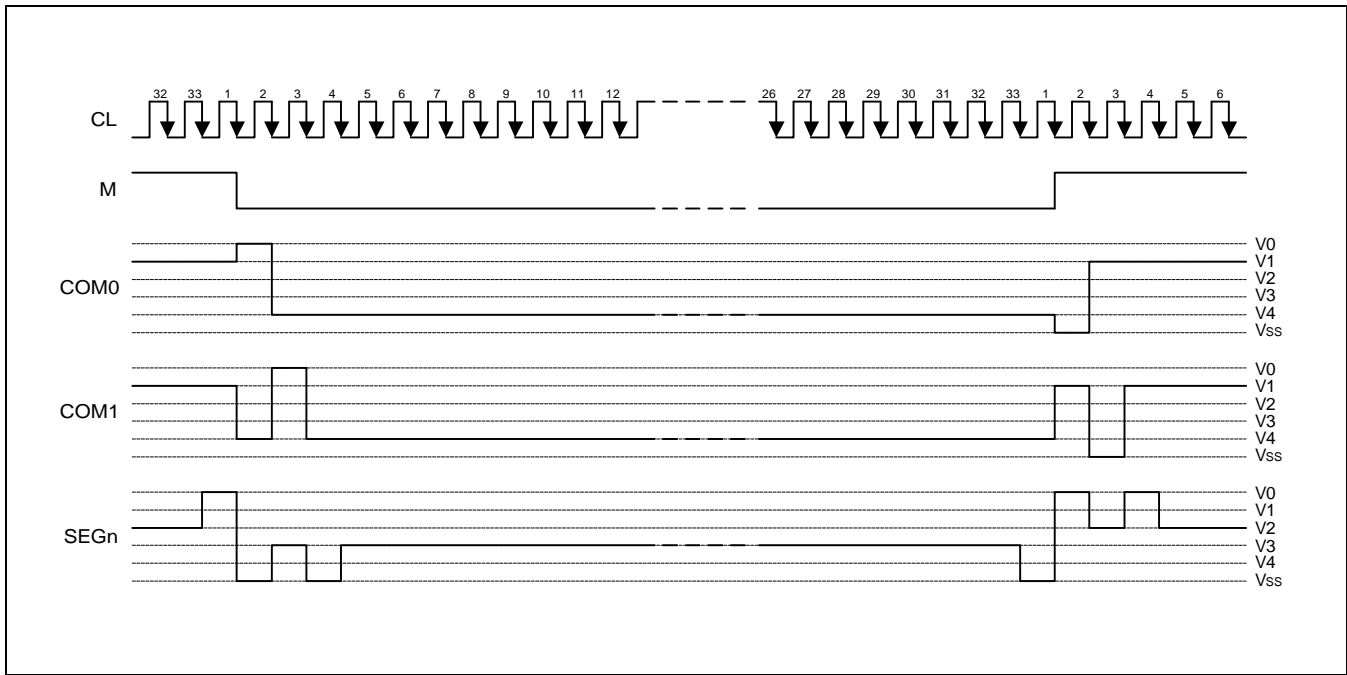

Figure 10. 2-frame AC Driving Waveform
This circuit generates some signals to be used for displaying LCD. The display clock, CL, generated by oscillation clock, generates the clock for the line counter and the signal for the display data latch. The line address of on-chip RAM is generated in synchronization with the display clock (CL) and the 100-bit display data is latched by the display data latch circuit in synchronization with the display clock. The display data, which is read to the LCD driver, is completely independent of the access to the display data RAM from the microprocessor. The display clock generates an LCD AC signal (M) which enables the LCD driver to make a AC drive waveform, and also generates an internal common timing signal and start signal to the common driver. Driving 2-frame AC driver waveform and internal timing signal are shown in figure 10.